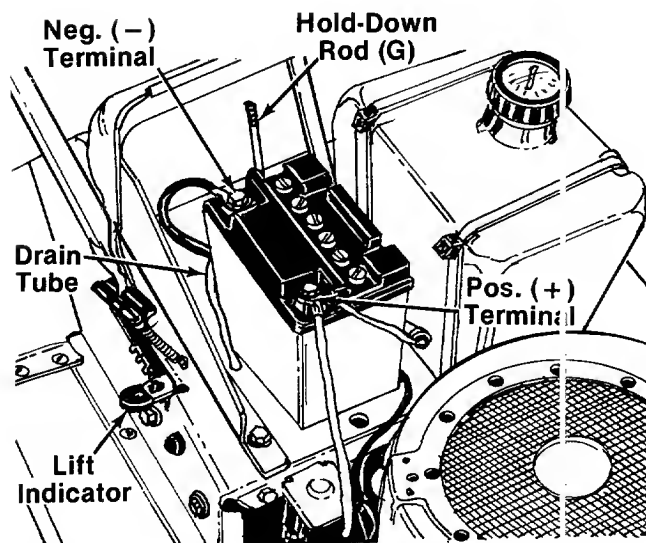

FIGURE 4.
2. Move the lift indicator to the position nearest the front of the lawn tractor. See figure 4. Insert one hold-down rod (G) into hole provided and lay it off to the side.
7. Feed the battery drain tube through the hole provided beside the battery. See figure 4.